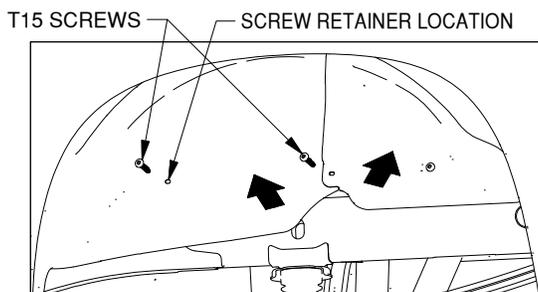

Figure A5: View looking into driver side wheel well.
10. **Un-attach the wheel well liners.** Check for the presence of flexible wheel well liners in the truck wheel wells. If present, two T15 Torx screws will need to be removed so that the liners can be folded up and allow the cross members and side plates to be installed, see Figure A5. Remove the screw retainer from forward most hole using a screw driver. It will be replaced after the hitch is installed.